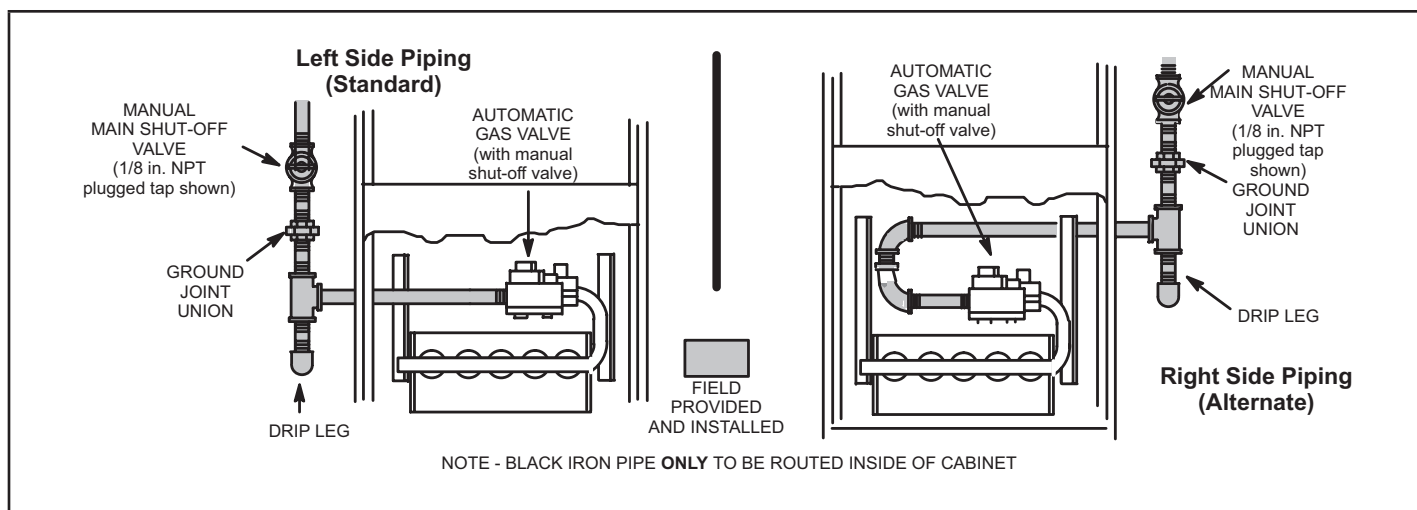

FIGURE 51
- 1 - Gas piping may be routed into the unit through either the left- or right-hand side. Supply piping enters into the gas valve from the side of the valve as shown in FIGURE 51. Connect the gas supply piping into the gas valve. The maximum torque is 800 in lbs and minimum torque is 350 in lbs when attaching the gas piping to the gas valve.
- 3 - Gas piping must not run in or through air ducts, clothes chutes, chimneys or gas vents, dumb waiters or elevator shafts. Center gas line through piping hole. Gas line should not touch side of unit. See FIGURE 51.